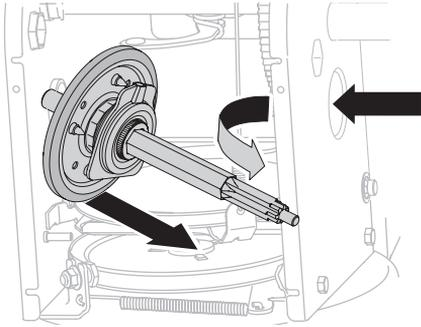

Figure 88
- Carefully position hex shaft downward and to the left before carefully sliding friction wheel assembly off shaft (Figure 88).